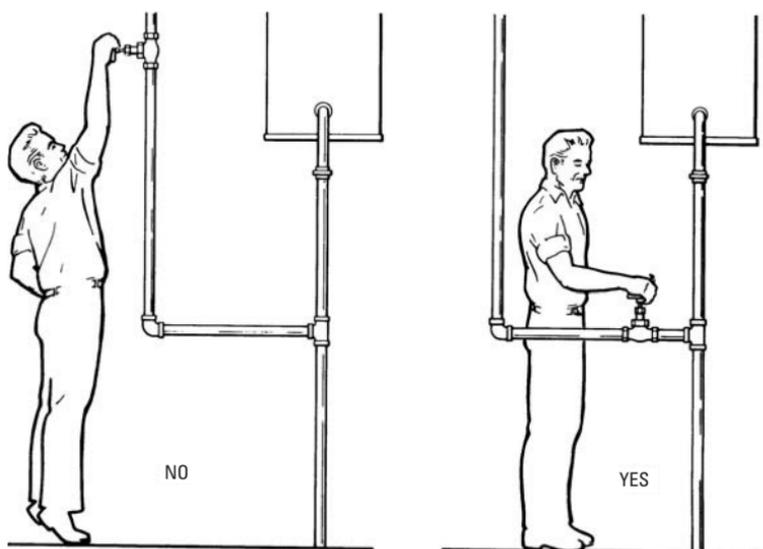

Figure 9-47 Install valves in a convenient, easily reached location.
4. Install valves in a location that can be reached conveniently (see Figure 9-47). If the valve is placed so that it is awkward to reach, it sometimes may not be closed tightly enough. This can eventually cause leaks to develop in the valve.